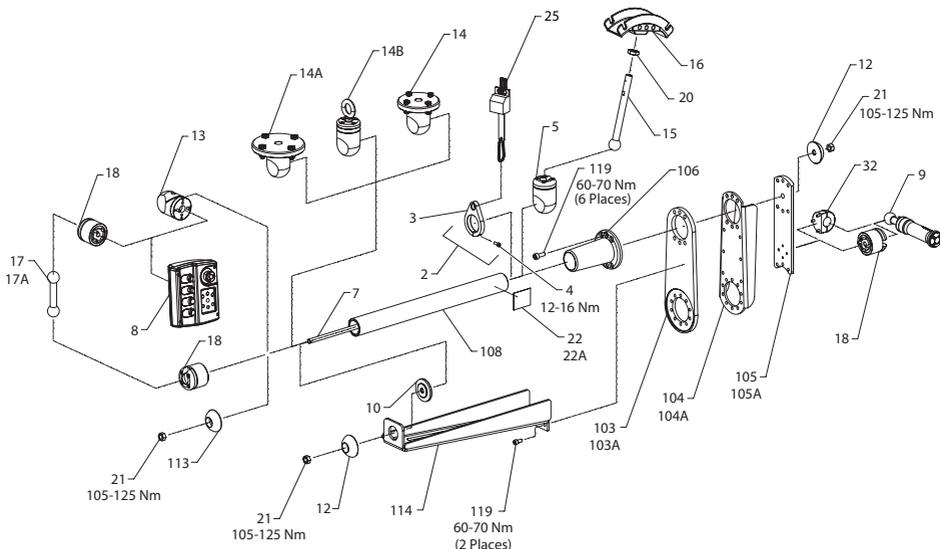

Figure 7
4. Align Suspension Tube Bracket (106), Back Plate for Small Bearing Assembly/Back Plate for Large Bearing Assembly (103/103A), Back Plate Rib for Small Bearing Assembly/Back Plate Rib for Large Bearing Assembly (104/104A) and Redundant Back Plate for Small Bearing Assembly/Redundant Back Plate for Large Bearing Assembly (105/105A) inline as in Figure 7.
5. Secure assembly in step 4 with fastener Cap Head Screw (119).
6. Insert Suspension Tube (108) from open end of Suspension Tube Bracket (106), to mate it with Redundant Back Plate for Small Bearing Assembly/Redundant Back Plate for Large Bearing Assembly (105/105A).
7. Insert sub assemblies Suspension Joint-100 Nm/Suspension Joint-500 Nm/Suspension Joint-Eye Bolt (14/14A/14B), Control Panel Mount Assembly (13) (if required), Tube Holder Assembly (5) and Hanger (3) over Suspension Tube (108).
8. Align Suspension Support (114) and Tube Bracket Vertical (10) inline with Suspension Tube (108) (only if sub assembly Large Bearing Assembly (109A) is used) as in Figure 7.
9. Assemble a Tierod (7) with fastener Nut (21) through Tube End Cap (113) (or Spherical Washer (12) if Suspension Support (114) is used) or with Flat/Tube Holder Assembly (18) (refer **Tube End Suspension Assembly** for assembly instruction on this) on one end.
10. Enter the free end of Tierod (7) into the open end of Suspension Tube (108) and pass through assembly in step 5 as shown in Figure 7.
11. Secure the above assembly by fastening Nut (21), with Washer (12), to Tierod (7).
12. Fasten other end of Suspension Support (114) to Back Plate for Large Bearing Assembly (103A) using Cap Head Screw (119).
13. Assemble Ball End Shaft (15), Cable Tray (16) and Nut (20) as per instructions given under **Cable Tray Assembly**.
14. Assemble sub assembly in step 13, with ball end of Ball End Shaft (15) into sub assembly Tube Holder Assembly (5) at desired location and orientation. (Refer **Tube Holder Assembly** for detailed instructions).
15. If Control Panel Mount Assembly (13) is used to mount Control Panel (8), assemble Control Panel Mount Assembly (13) and Control Panel (8) as per instructions given under **Control Panel Mount Assembly**.
16. If Ball to Ball Shaft-Short Ball to Ball Shaft-Long (17/17A) and Flat/Tube Holder Assembly (18) are used to mount Control Panel (8), first assemble Ball to Ball Shaft-Short Ball to Ball Shaft-Long (17/17A) with Flat/Tube Holder Assembly (18), assembled with Tierod (7), as per instructions given under **Flat Holder Assembly**.
17. Assemble another Flat/Tube Holder Assembly (18) with Control Panel (8) as per instructions given under **Flat Holder Assembly**.
18. Assemble sub assembly in step 17 with sub assembly in step 16 and secure at required orientation as shown in Figure 7.
19. Lock positions of Suspension Joint-100 Nm/Suspension Joint-500 Nm/Suspension Joint-Eye Bolt (14/14A/14B) as per given under **Suspension Assemblies** and Control Panel Mount Assembly (13) (if used) as per given under **Control Panel Mount Assembly**.
20. Orient the position of Redundant Eye (3) and secure it with fastener Cap Head Screw (4) as shown in Figure 7.
38. Assemble Handle (9) to Redundant Back Plate for Small Bearing Assembly/Redundant Back Plate for Large Bearing Assembly (105/105A) using Flat/Tube Holder Assembly (18), (refer **Flat Holder Assembly** for detailed instructions) or Plate Holder Assembly (32) as per application (refer Figure 7).
39. Suspend the whole assembly using a torque tube (if Suspension Joint-100 Nm (14) or Suspension Joint-500 Nm (14A) is chosen) or spring balancer (if Suspension Joint-Eye Bolt (14B) chosen).
40. Assemble a Safety Strap (25) into sub assembly Hanger Assembly (2).
41. Paste Warning Label (22) and Branding Label (22A) at appropriate positions (refer Figure 7).